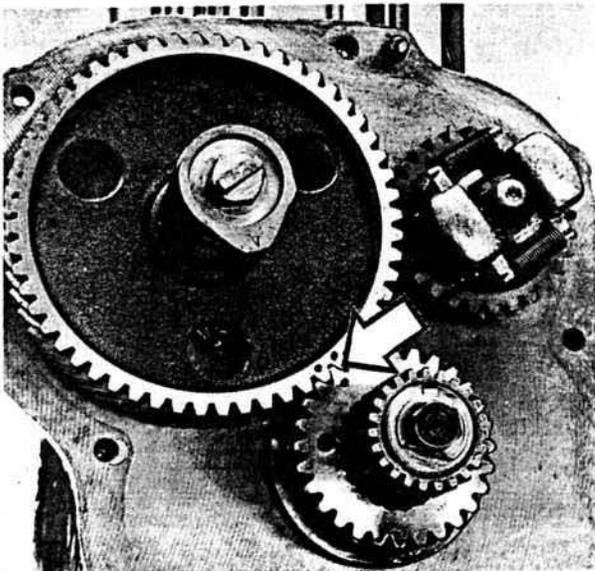

Fig. 33. Timing gear markings.
4. Fit the camshaft gear and cam disc. NOTE. The punch marks on the camshaft gear must register with the punch mark on the crankshaft gear, see Fig. 33.
6. Fit the gear on the crankshaft. NOTE. Locate it with the markings, Fig. 33.